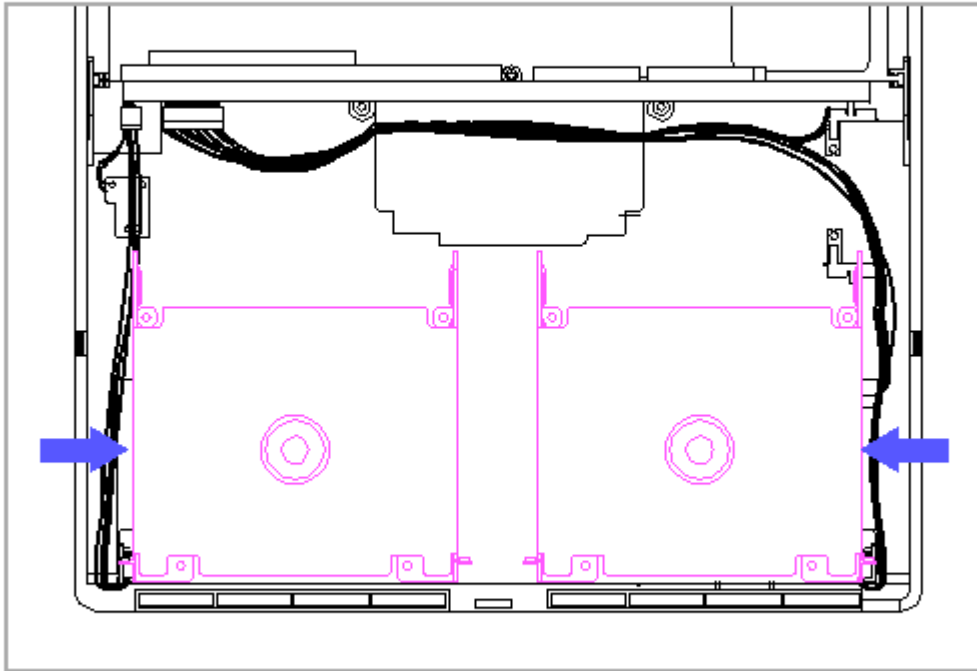

Figure 9-34. Moving the Drive Cages Toward the Center
4. Slide both drive cages toward the center of the top cover as much as the screw holes allow (Figure 9-34).